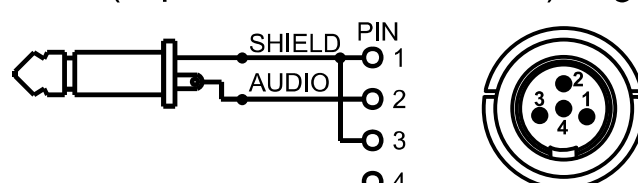

Fig. 41
5. Line-in (impedance 8K ATT 10dB). Fig. 41